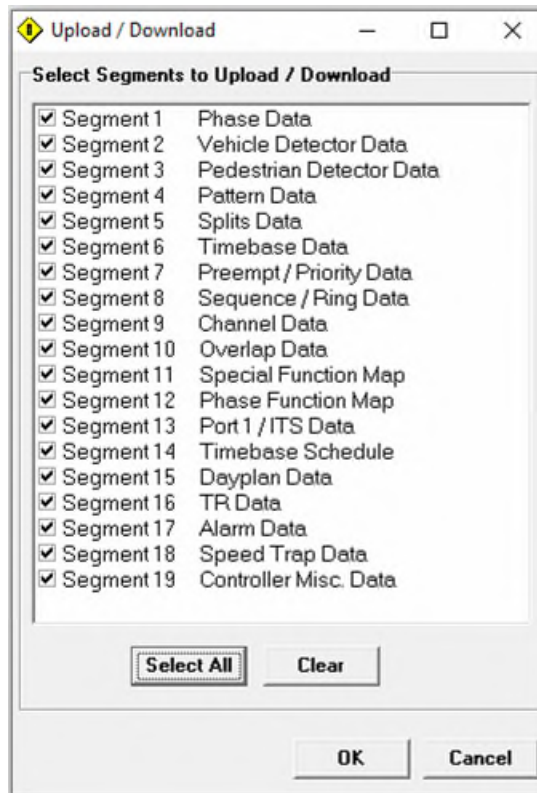

Figure 94: The Upload/Download window where different segments of the signal database can be chosen for upload and download commands.
1. The Upload/Download window will appear, seen in Figure 94. Select the segments to be download or use the **Select All** button to select all the segments automatically. These segments correlate to menu structure found in the traffic signal controller firmware.